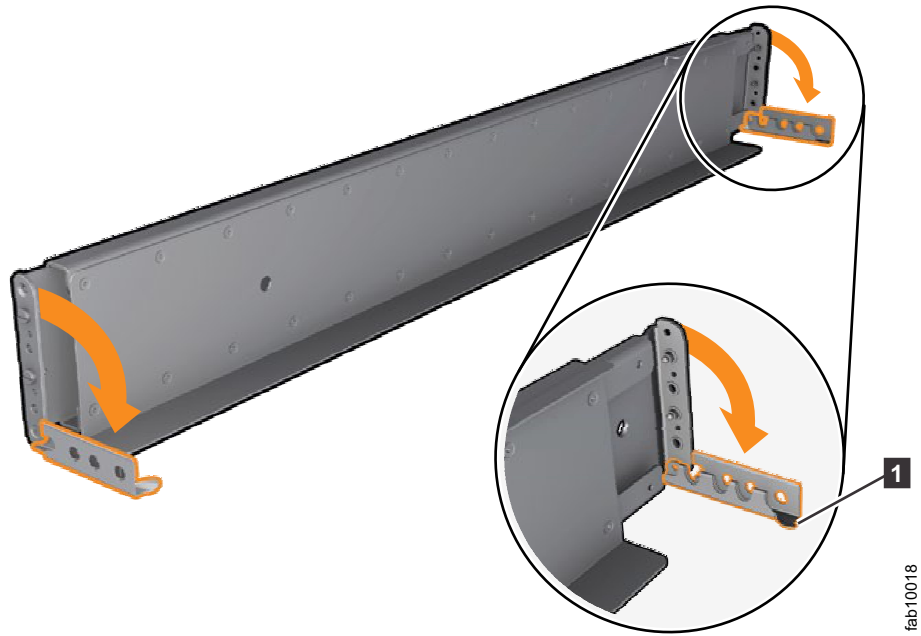

Figure 35. Opening the hinge brackets
6. At each end of the rail, grasp the tab **1** and pull *firmly* to open the hinge bracket (see Figure 35 on page 32).